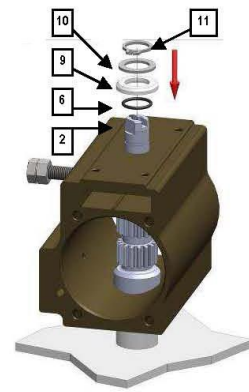
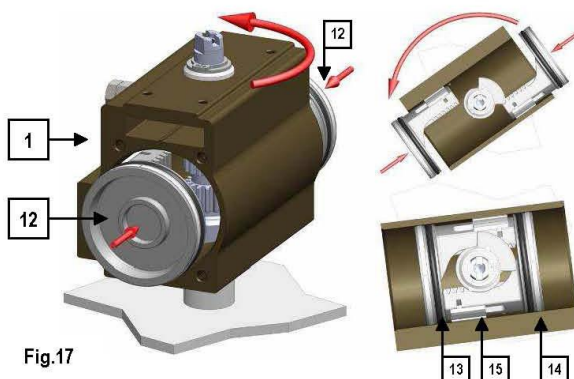

Fig.16
Fig.17
5. Fit on the pinion (2) the O-ring (6), the spacer (9), the washer (10), the snap ring (11), see Fig. 16 ;
6. Grease the internal chamber of the cylinder (1) and both pistons (12) provided with O-ring (13) antifriction ring (14) and thrust block (15) The recommended lubricating grease is "KLUBER" TRIBO STAR 1EP".
7. For the standard execution (clockwise rotation opens) press the pistons (12) into the cylinder (1) while turning the cylinder (1) in counterclockwise direction (top view) until the pistons come into contact, see fig. 17 ;
8. Screw down the second adjustment screw (17) with nut (16) in the cylinder (1) and adjust the travel stop, paragraph 8;